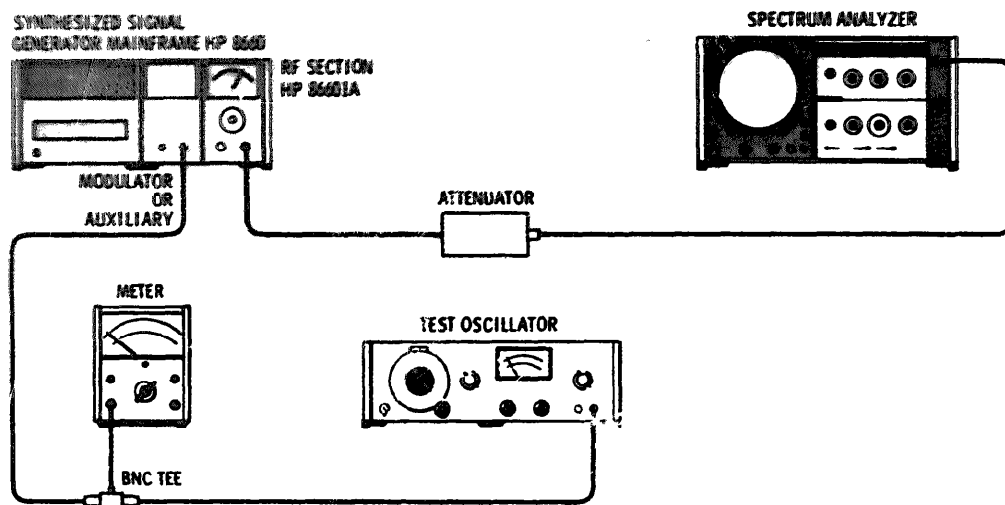

Figure 5-3. Amplitude Modulation Calibration Setup
1. Connect the equipment as shown in Figure 5-3.